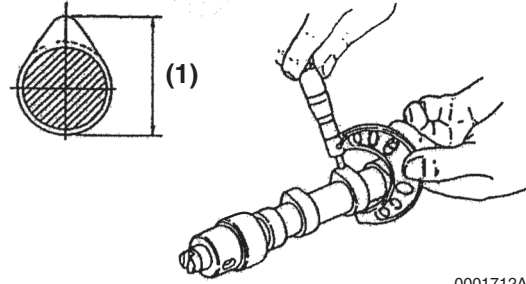

Figure 6-78
3. Measure the height of each lobe (Figure 6-78, (1)). Record the measurements. See Camshaft on page 6-7 for specifications.